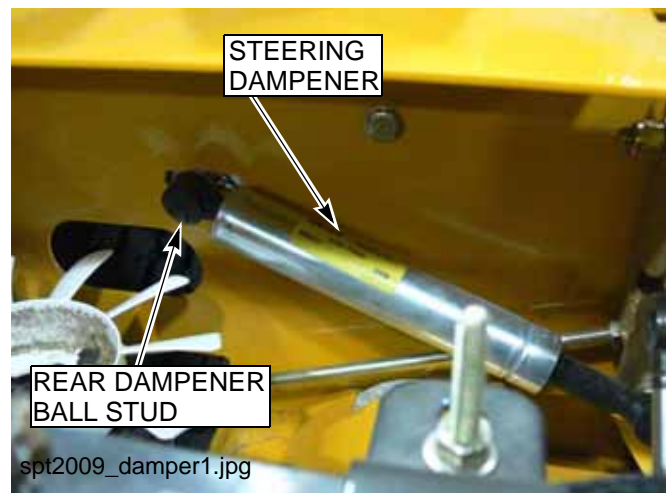

FIG. 38
10. With the engine off, move the RH steering control lever into the neutral position and pull the lever all the way back to the rear of the tractor as if you were going full speed in reverse. Now, slowly bring the lever back to the neutral position and lock it into the brake position. This sets the steering damper in the correct neutral position. Tighten the ball stud at the rear of the damper that is attached to the frame side panel on the RH side (FIG. 38). Once this
The steering dampener (FIG. 38) is spring loaded to return the control levers to the neutral position from the reverse position. This gives the operator a sense of neutral during operation.
3. Loosen the steering dampener's rear ball stud (FIG. 38).